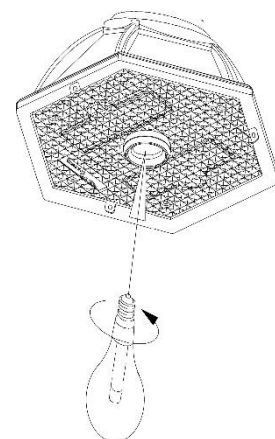

Fig.2
1. Detach the top of the lamp unit **(B)** by releasing the 3 screws. Make sure the Low/OFF/High switch is in the OFF (O) position.
3. Install the new GS Solar LED Bulb by turning into the bulb socket clockwise **(Fig.2)**.